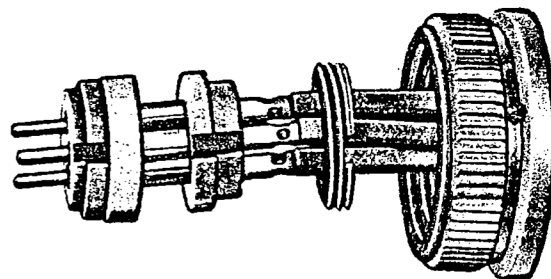

Figure 20
c. Install contacts with wires attached in proper holes of rear insert. Smallest outside diameter of rear insert must face toward wires. (Figure 20.) As each contact is installed, it must be rotated 90 degrees to lock it in the insert and properly align the flats so the sealing insert and front insert can be installed.
d. Align contact holes of sealing insert with contacts. Carefully work sealing insert down over contacts and position approximately $\frac{1}{16}$ of an inch from the front of the contacts. (Figure 20.) This will aid in holding the contacts in alignment while assembling the front insert.